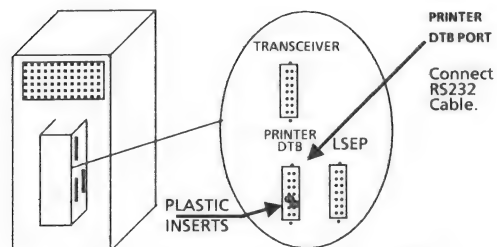

Figure 2-19 Remove Plastic Inserts from DTB Port
- c. Remove any plastic inserts installed in the PRINTER DTB port by cutting off the flared heads. (Figure 2-19)
- e. Connect one end of the RS232 cable to the port named PRINTER DTB. (Figure 2-19)